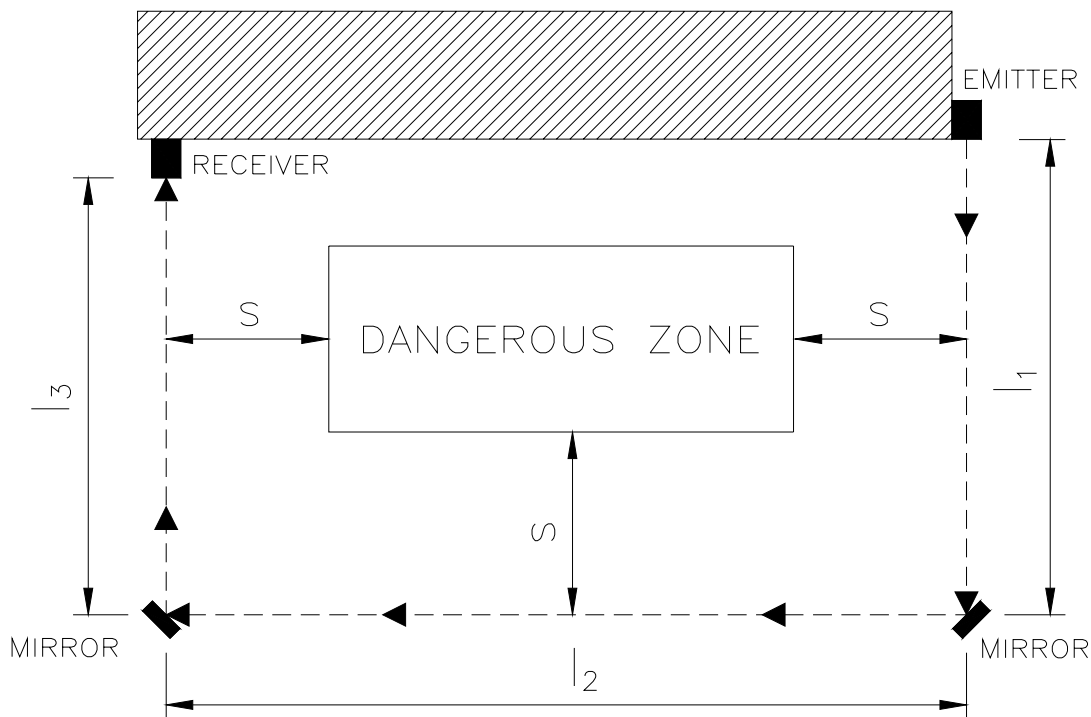

Figure 7 – Deflecting mirrors
- Position the mirrors so as to comply with the minimum safety distance **S** (Figure 7) on each side of access to the dangerous area.